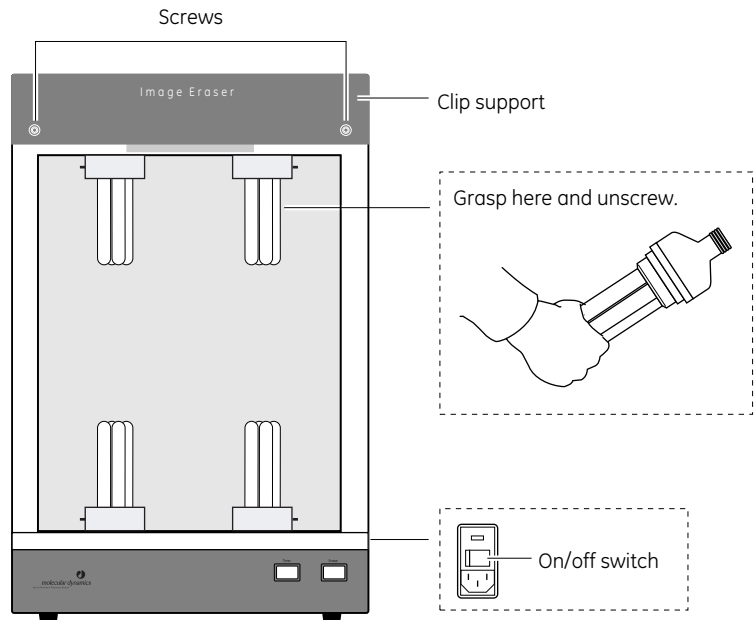

Fig 14-2. Removing a bulb from the Image Eraser.
- 4 Unscrew the bulb and fixture from the receptacle and replace the bulb and fixture with a new bulb and fixture (fig 14-2).